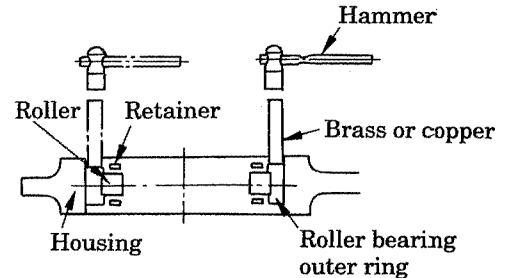

Fig. 13 Removal of Roller Bearing
- (1) The pliers is used for removing the C-type snap ring and the puller for removing the slinger and bearing.
- (2) For the roller bearing, apply a brass or copper plate to the outer ring and alternately hit it at diagonal positions on the circumference with a hammer to remove it from the shield. (Fig. 13)